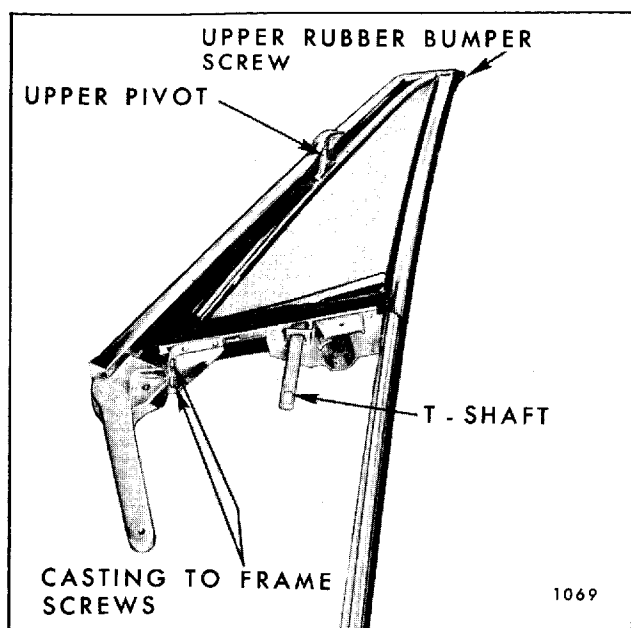

Fig. 7-72—Front Door Ventilator - "B & C" Styles
2. Remove ventilator glass and sash channel from ventilator frame by opening glass approximately 60° and pushing glass downward slightly to disengage glass unit from ventilator frame at upper pivot point; then, upward to disengage lower T-shaft from frame. (Fig. 7-72).
4. Remove two attaching screws securing ventilator casting to frame and separate ventilator casting from frame so that the ventilator weatherstrip can be removed (Fig. 7-72).